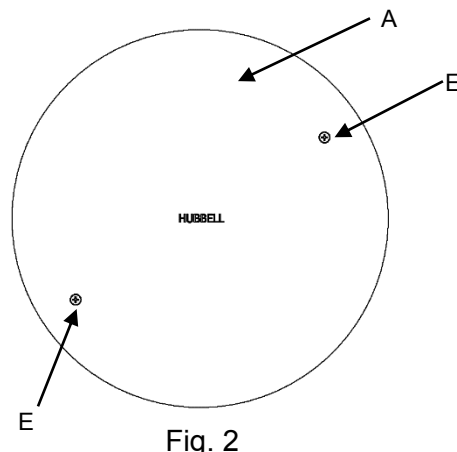

Fig. 2
7. For cover plates S1R10CSPxxx series and S1R10PSPxxx series remove the installation plate (A), installation tubes (D) and retain the screws (E) Fig. 2. Cover plates are purchased separately.